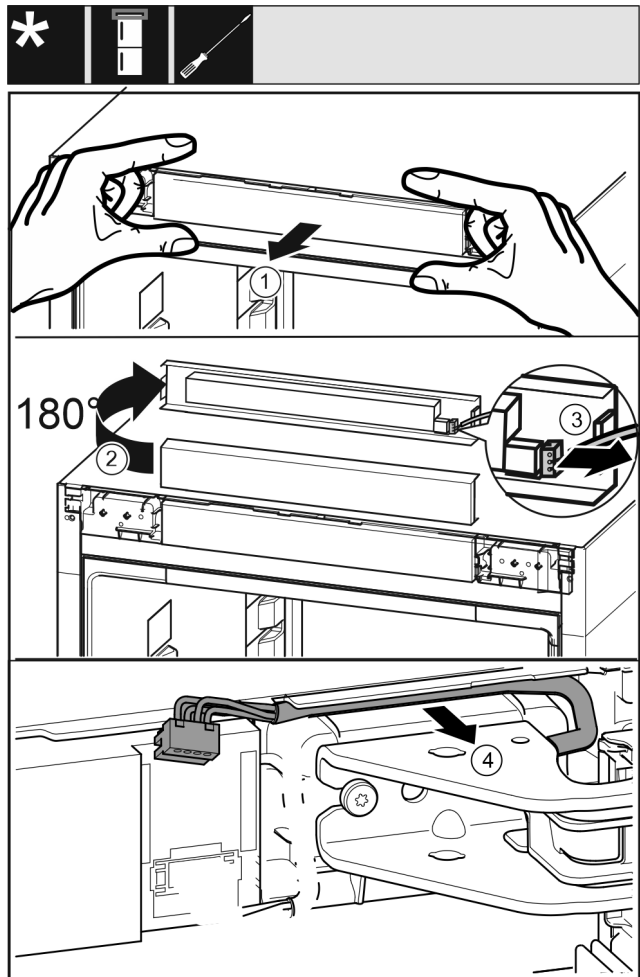

Fig. 19
- ▶ Loosen the control panel of the appliance carefully to the front. Fig. 19 (1)
- ▶ Turn the control panel up by 180°. Fig. 19 (2)
- ▶ Press the latching lug backward and pull out the plug carefully. Fig. 19 (3)
- ▶ Carefully remove the cable over the bearing bracket from the guide. Fig. 19 (4)